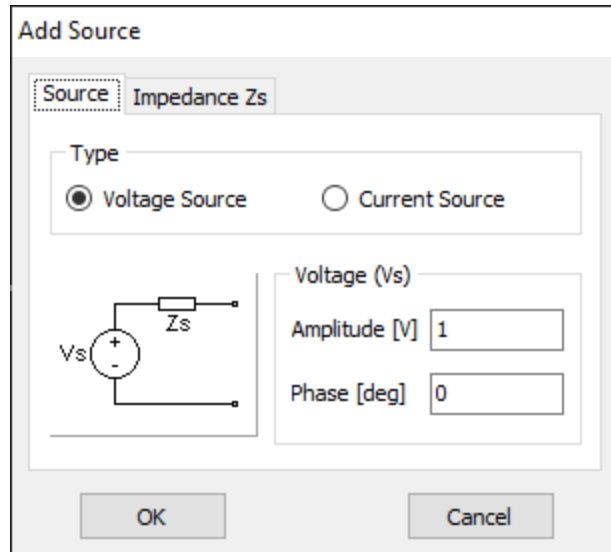

Fig. 2: Dialog box for adding a discrete source to a wire segment.
- Opens a dialog box to add a source to the selected segment (**Fig. 2**).